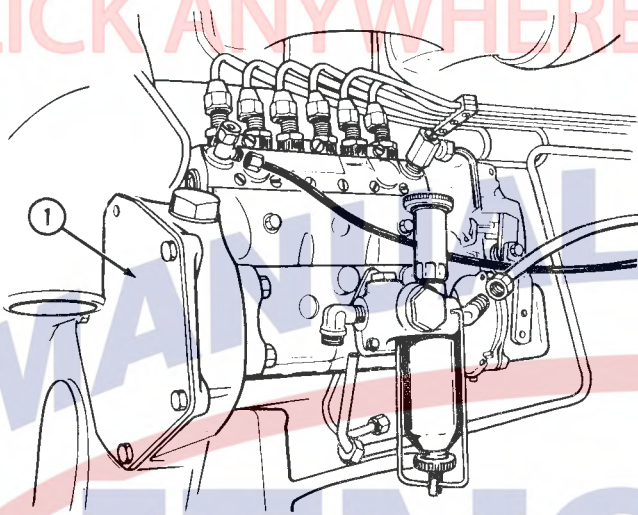

Figure 5
4. Remove the fuel pump drive gear cover (1) and gasket, Figure 5.